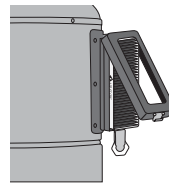

figure 8
1. Unlatch the opening on the carbon filter case and gently flip it upward (**figure 8**).